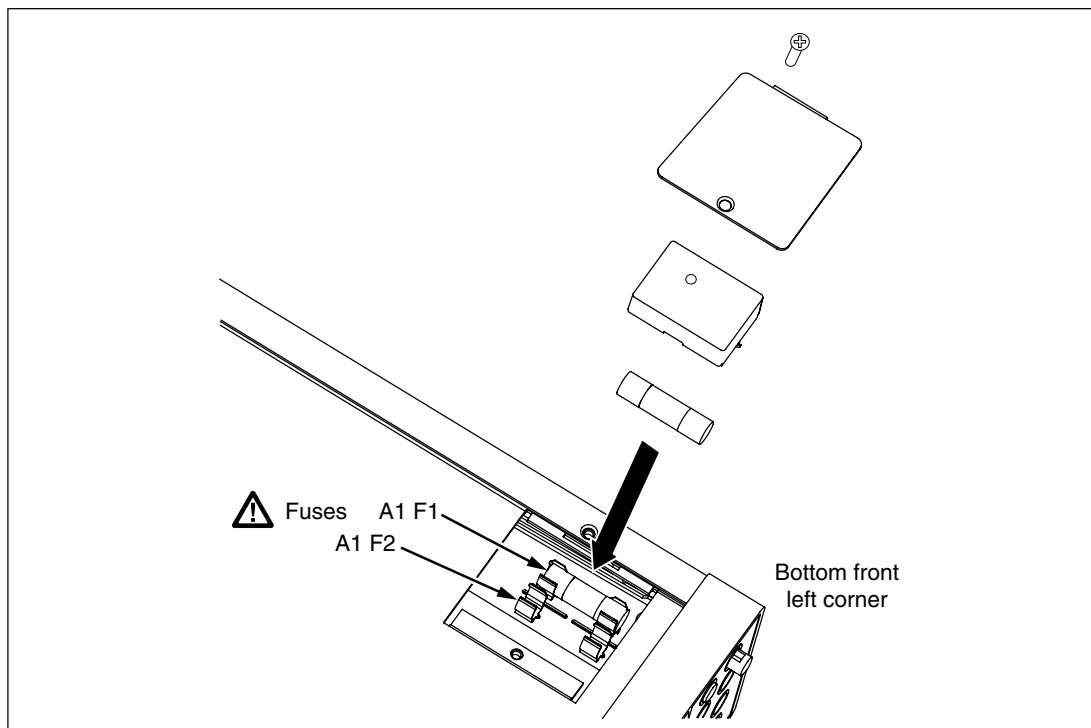

Figure 2-2. Current Input Fuse Replacement
3. Unscrew the retaining screw on the fuse access door, as depicted in Figure 2-2.